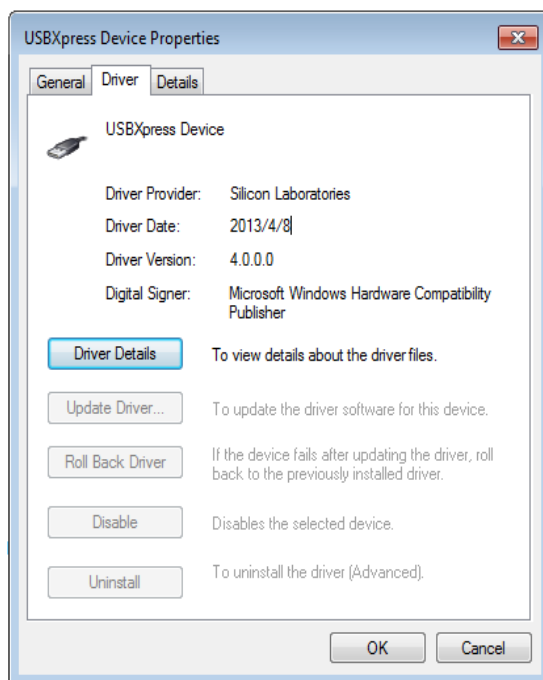

Figure 12: Correct Driver Version 4.0.0.0
4. If the PC is running Windows 10, check the driver version of the USBXpress Device. Windows 10 may automatically install the older USB driver, which is not compatible. The correct driver version is 4.0.0.0 (see Figure 12).